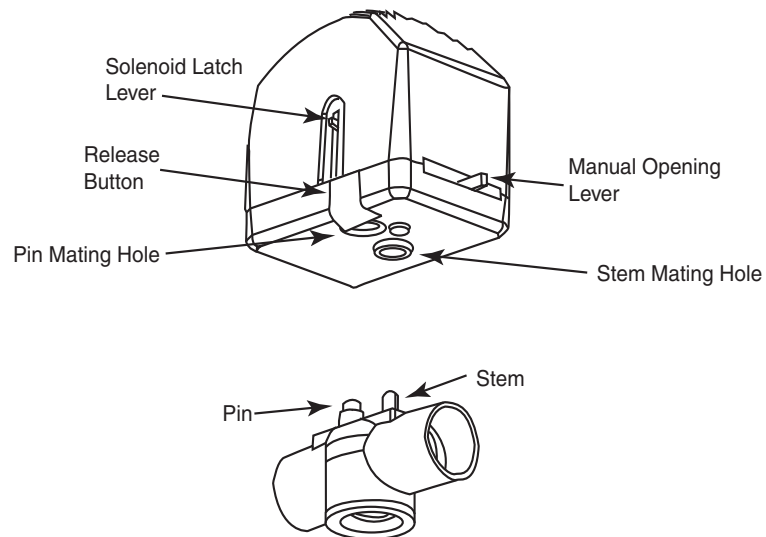

Figure-9 Three-Way Spring Return Valves.
- 2. With the valve in the mid-position, latch the solenoid by placing the manual solenoid latch lever in the "Up" position. Then, detach the actuator by depressing the release button and pulling it away from the valve body (Figure-9).
When installing threaded valves, the actuator should be detached from the valve body to ease installation. To do so, first slowly move the actuator's manual operating lever (on the front of the actuator) to the middle position. Then latch the solenoid by placing the red manual solenoid latch lever on the side of the actuator to the "Up" position. Finally detach the actuator by depressing the release button and pulling the actuator away from the valve body (Figure-9).
1. Before reinstalling the actuator, be sure that its manual operating lever is in the mid-position, and that the solenoid is latched. The solenoid is latched when the manual solenoid latch lever is in its "Up" position (Figure-9).
3. Align the valve body with the actuator to ensure the stem is inserted into the large mating hole on the bottom side of the actuator (Figure-9).